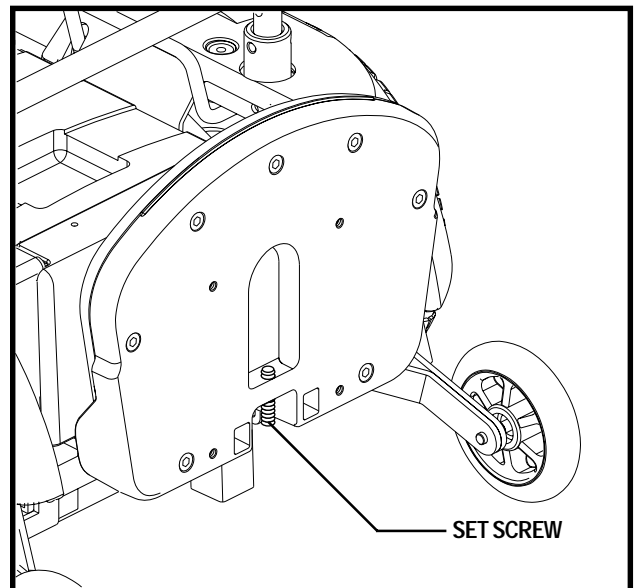

Figure 24. Foot Platform Angle
1. Flip up the foot platform and locate the setscrew. See figure 24.